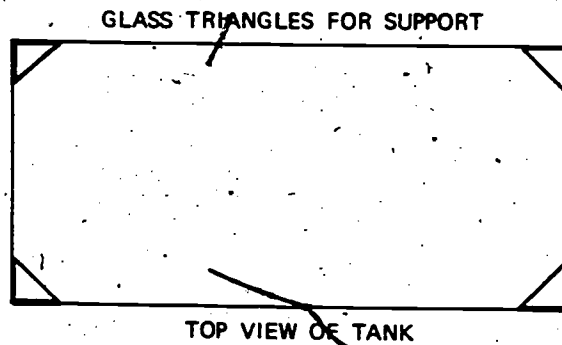

Figure 3.
- (4) Once taping is complete, put the aquarium together without sealant, making sure that all mating surfaces match. The side panels stand against (not on) the bottom plate.
- (5) Then place toothpicks between these surfaces so that there is a slight gap. Masking tape may be used to keep the sides together.
- (6) At this juncture, squirt the sealant into all the gaps provided by the toothpicks until the sealant emerges on the other side of the seam.
- (7) When all seams are caulked, wait five minutes, then gently remove the toothpicks.
- (8) Fill the holes with sealant.
- (9) *The most important step is to let the tank sit undisturbed for twenty-four hours while the sealant cures.*
(10) For more support, small glass triangles (see Figure 3) can be set in the corners at the top of the tank where the side panels join the back and front panels.